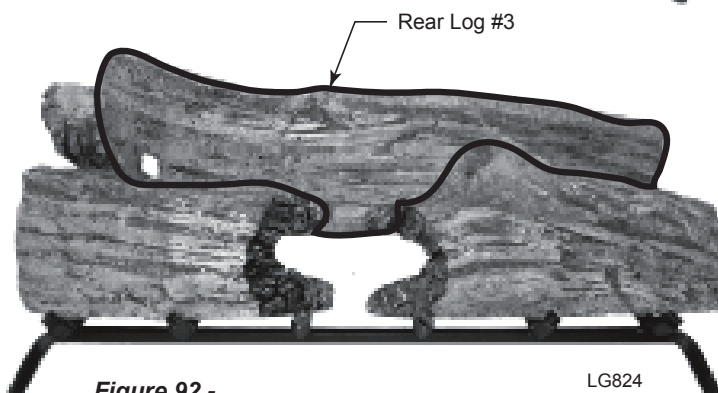

**Figure 92 -
5. Fit cutout in the bottom left of rear log #3 over the back end of log #2. Rest right end of log #3 on rear grate bar. *Figure 92*